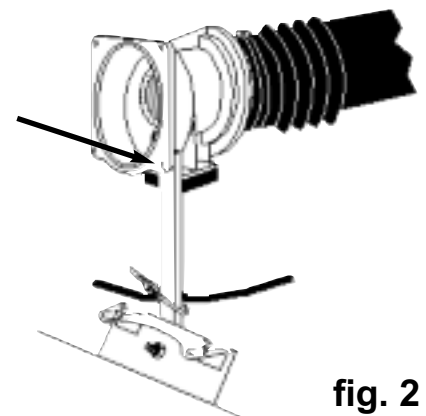

fig. 2
- 9) Loosen the clamp that holds the mass-air sensor into the intake hose. Rotate the mass-air sensor so that the power cable is on the bottom and the bracket lines up with one of the mass-air mounting holes. (See fig. 2)